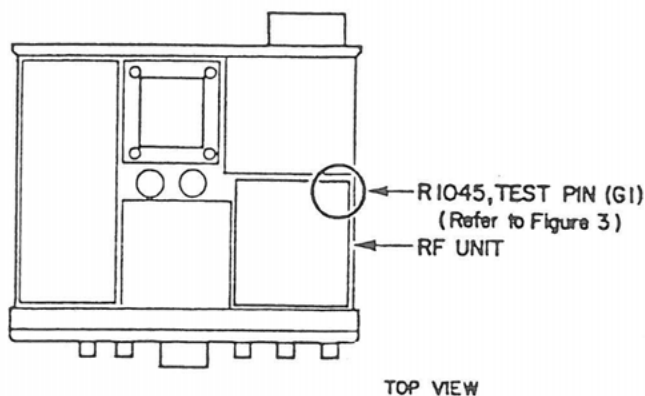

Figure 1
- 1) On the component side of the RF Unit, install a 1 uF, 50 WV electrolytic capacitor, as shown in Figures 1 and 2. The positive lead of the capacitor is soldered to the lead of R1045, and the negative lead to the TEST PIN (G1).